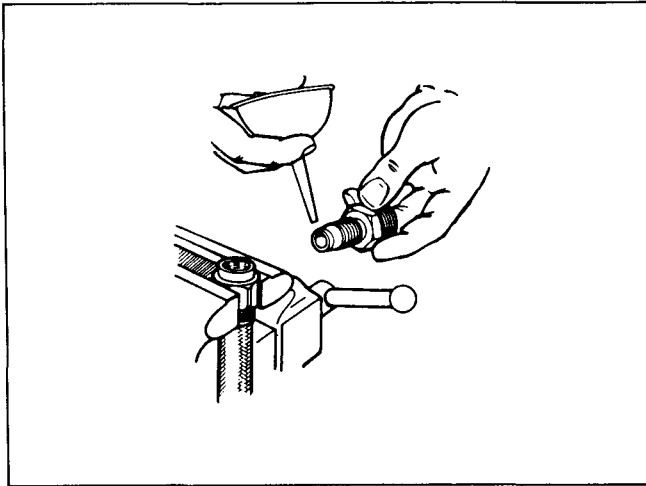

Fig. 7-6, (N10738). Lubricating nipple
6. Place socket and hose assembly in jaws of vise. (Clamp on the socket.) Apply lubrication on nipple (Fig. 7-6) and inside of hose for ease of assembly.